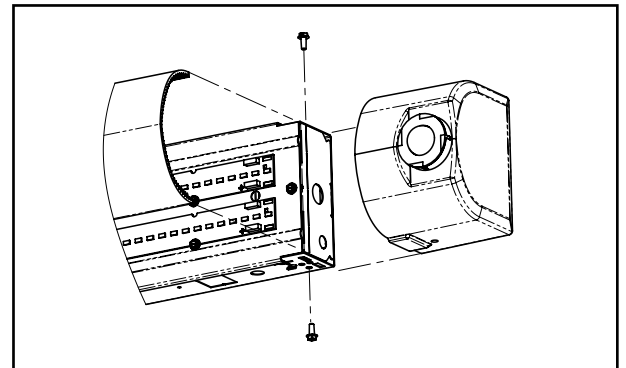

Figure 1.
2. Remove the 2 screws from each end cap (Figure 1).